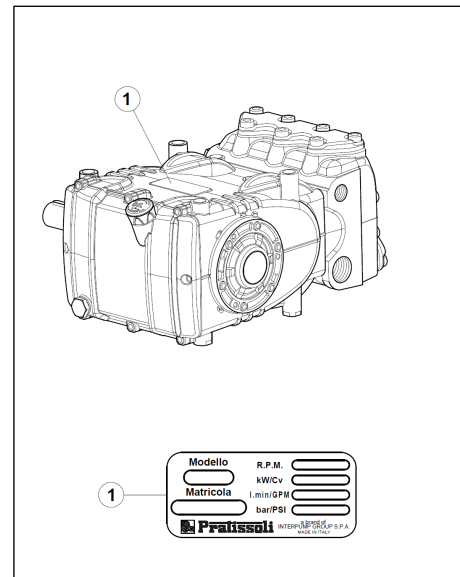

fig. 1
Each pump is fitted with a rating plate (see fig.1 pos. 1) indicating :